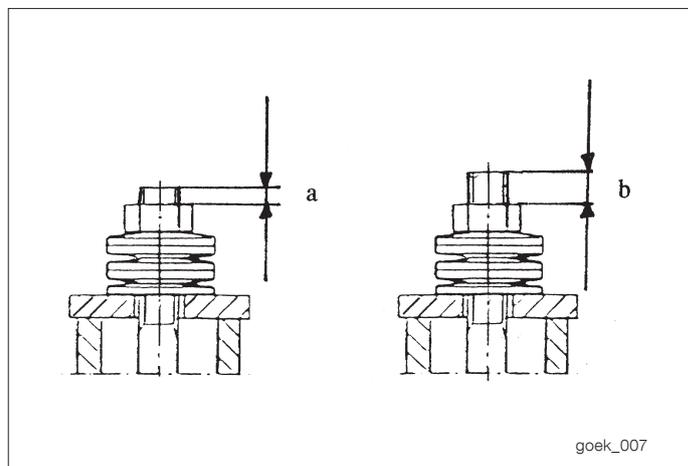

Fig. 14. Tightening of draw rod.
5. The conical spring washers and the nut are fastened according to Fig. 14. Note that the conical spring washers shall be placed as shown in the figure in order to function correctly.
2. Slack off the nut to 10 Nm and measure the distance (a) from the top of the nut to the top of the bolt, according to Fig. 14.